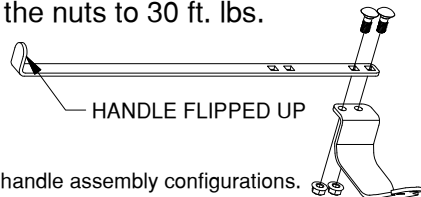

Figure D1: Latch handle assembly configurations.
- 1. Assemble the handle.** Locate the latch pin handle and the latch pin handle bracket. Assemble the pieces of the handle with two 3/8" carriage bolts and 3/8" locking flange nuts, making sure that the edge of the handle is in line with the edge of the bracket, see Figure D1. Torque the nuts to 30 ft. lbs.